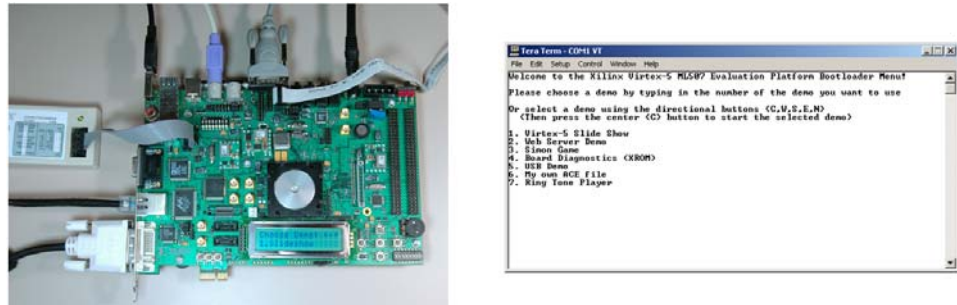

Figure 9: ML507 Board and Demo Window
- ◆ You will see the messages on the LCD screen and the Terminal program (Figure 9) as shown below